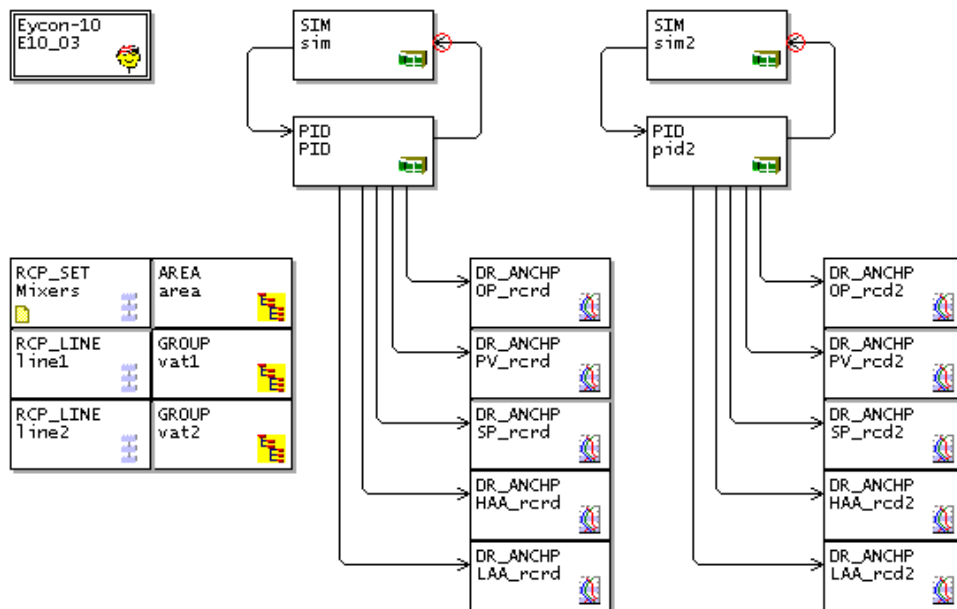

Figure 5-5 The modified two-line (simulation) strategy
Figure 5-5 shows the modified (simulated) strategy, with a second set of control loop blocks added. Also added are a RCP\_LINE block and a GROUP block. To avoid unnecessary clutter, the data logging blocks and the AI\_UIO and AO\_UIO blocks are not shown in the figure. You can delete them from the strategy if you wish, as they are not needed for this section of the tutorial.
- 4 Select the set of blocks linked to the PID block, i.e. the SIM, PID, and the five DR\_ANCHP blocks, e.g. drag a dotted box around the blocks. Copy (Ctrl+C) and paste (Ctrl+V) the selection, then move the superimposed copy, while still selected, to the right of the original blocks, as in Figure 5-5.
- 5 Select the RCP\_LINE and GROUP blocks, then copy, paste, and position the copies just below the existing pair of blocks. Rename the two GROUP blocks with more sensible names, 'vat1' and 'vat2', as in Figure 5-5.
Note *(Block type) blockname.field.subfield format, referring to Figure 5-5.